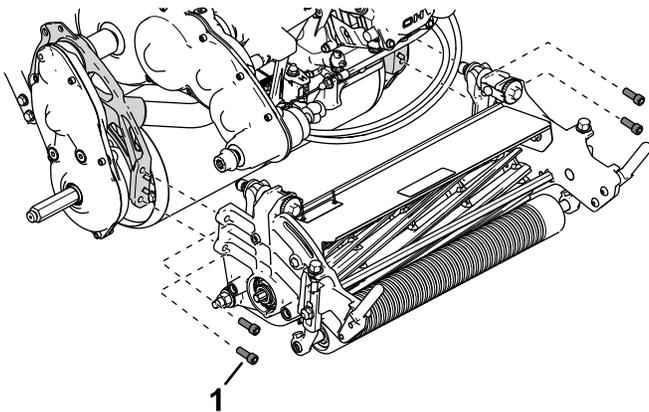

Figure 50
4. Remove the socket-head screws that secure the cutting unit to the frame (Figure 50).